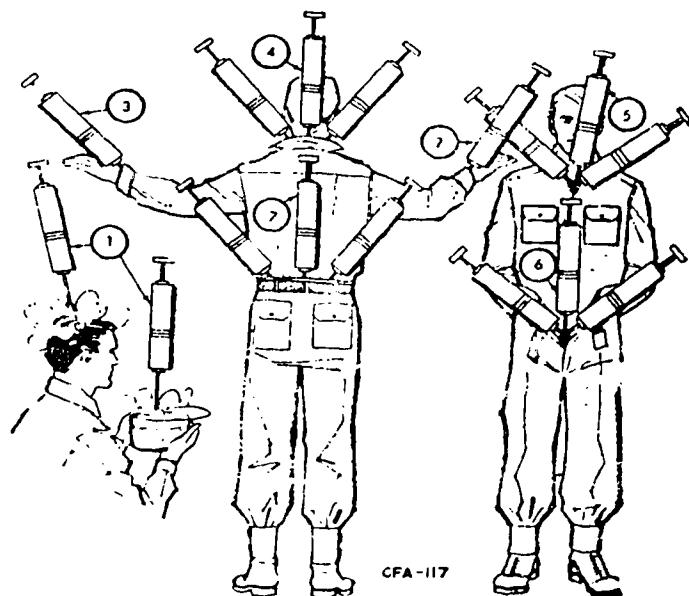

Figure 2-6. Delousing procedure.
(1) Using the insecticide powder, dust the head and hairy portions of the body.
(2) One week from the initial application, apply the powder again to kill lice which may have hatched in the meantime. Withhold bath and shampoo for one day after this dusting.
(3) Examine the head and hairy parts of the body closely to be sure that no living lice are present. If the hair is cut short, lice can be seen more easily; short hair is also easier to powder effectively. Delousing procedures for an individual are shown in figure 2-6.